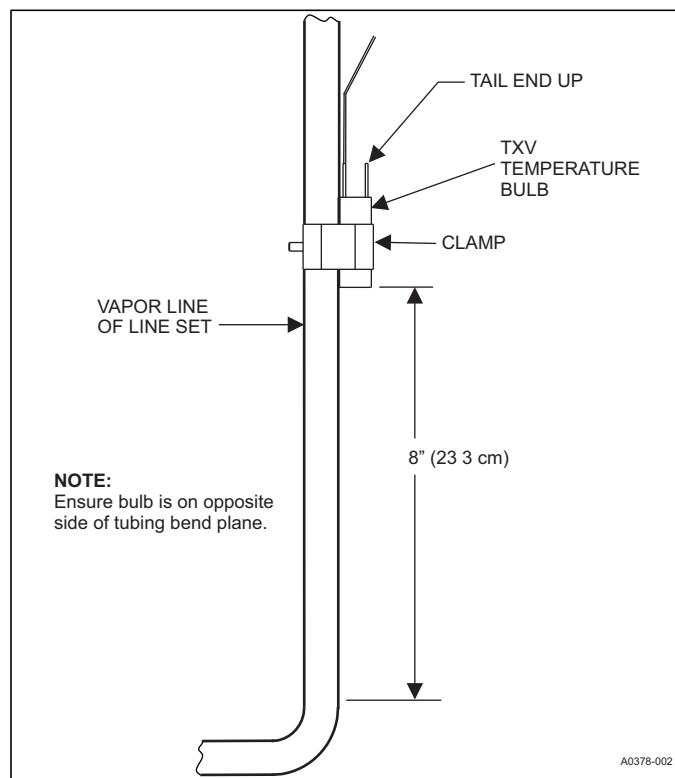

FIGURE 9: Vertical Temperature Bulb Orientation
- b. If bulb installation is made on a vertical run, ensure that the bulb is a minimum 8 inches (23.3 cm) away from elbow coming out of the coil. Position the bulb with the tail of the bulb at the top, so that the bulb acts as a reservoir. See Figure 9.